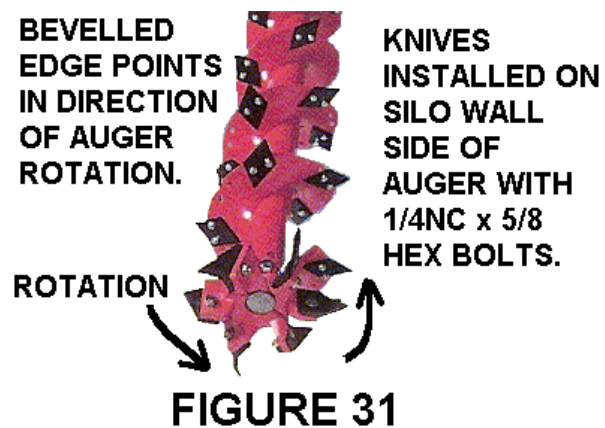

FIGURE 31
1. Bolt knives to the auger flighting with (2) 1/4" x 5/8" bolts each and nuts. Bolt the knives on the side of the flighting closest to the silo wall. The beveled edge faces in the direction of auger rotation which is clockwise when viewed from the center of the silo. Do not extend knives past the front edge of the rotor. For extremely hard packed or frozen material, put knives at all holes in the flighting. If normal application, then skip every other set of holes starting at the wall to the middle of the auger and then skip two sets of holes. See Figure 31.